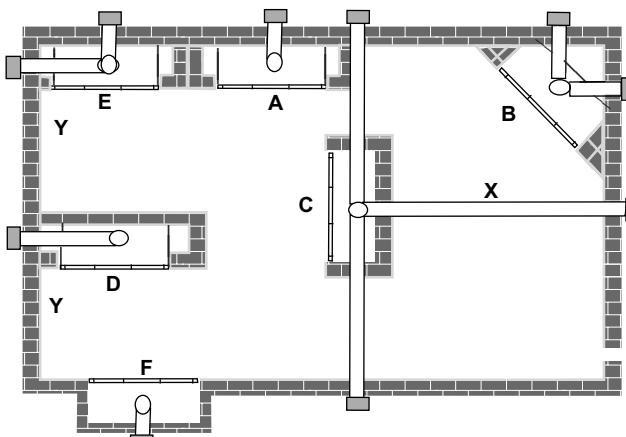

Figure 4 - Locating Gas Fireplace
- This fireplace may be installed along a wall, across a corner, or use an exterior chase. *See Figure 4* for suggested locations.